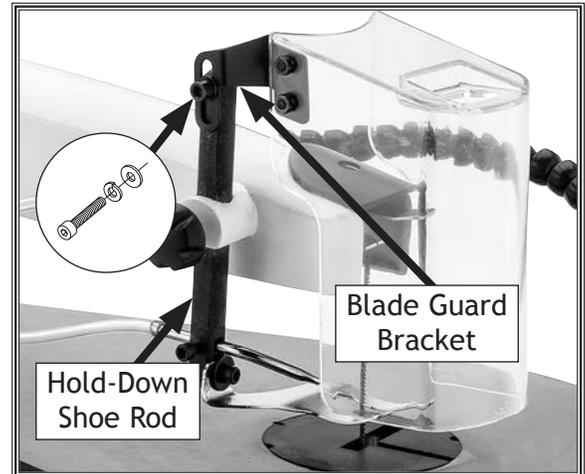

Figure 10. Blade guard installed.
1. Remove pre-installed cap screw, lock washer, and flat washer from top of hold-down shoe rod shown in **Figure 10**.
2. Attach blade guard bracket to top of hold-down shoe rod with cap screw, lock washer, and flat washer (see **Figure 10**).